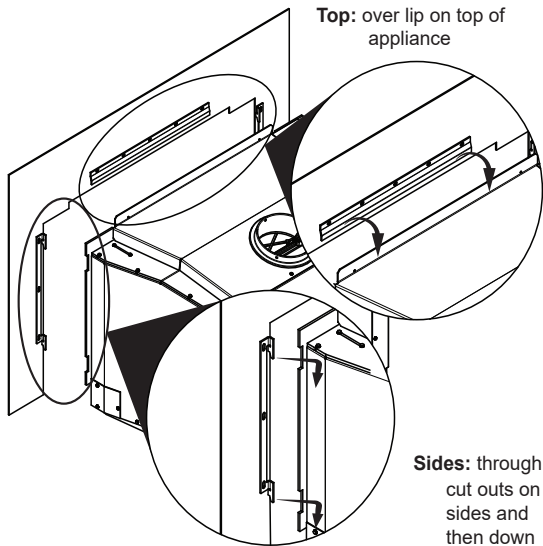

Figure 20.1
1. Lift surround to front of appliance (Figure 20.1).